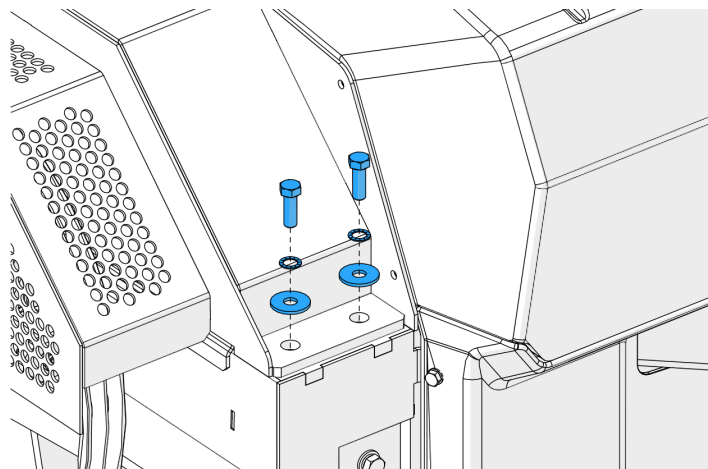

Figure 46 - Chipping chamber cover bolts
5. Remove the two bolts holding the chipping chamber cover closed (Figure 46).